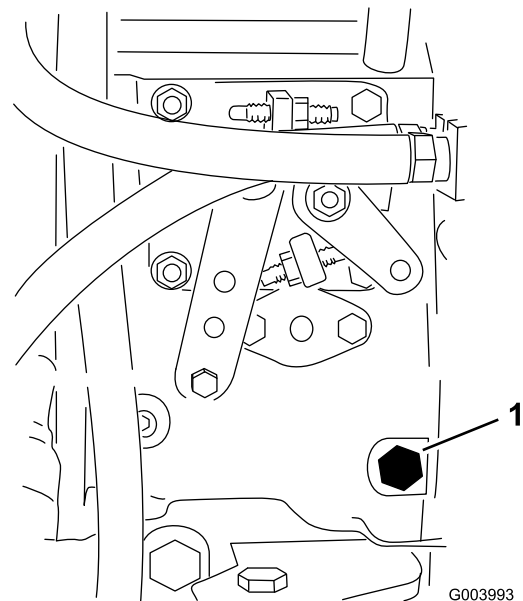

Figure 24
3. Open the air bleed screw on the fuel injection pump (Figure 24) with a 12 mm wrench.